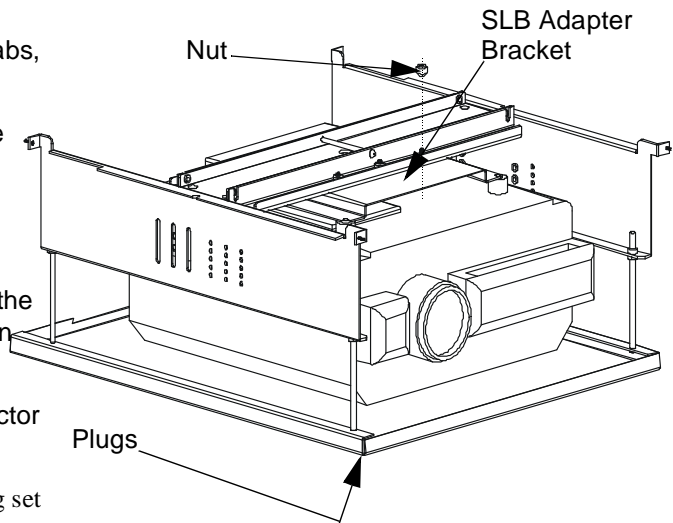

Figure 8. Projector Installation
1. If the lift is installed in an inverted position (suspended from the ceiling), attach the SLB adapter bracket (see Fig. 8) to the projector by aligning the threaded holes on the projector with the slots on the bracket and secure it using the screws provided (refer your individual bracket instructions).